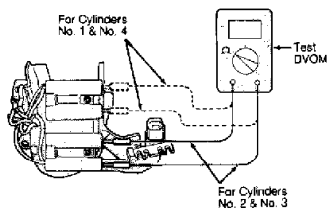

Fig. 3: Testing Ignition Coil Secondary Resistance (4-Cylinder)
2) Measure secondary coil resistance between coil towers for cylinders No. 1 and No. 4 and between coil towers for cylinders No. 2 and No. 3. See Fig. 3. Primary and secondary coil resistance should be within specification. See DIS IGNITION COIL RESISTANCE table.